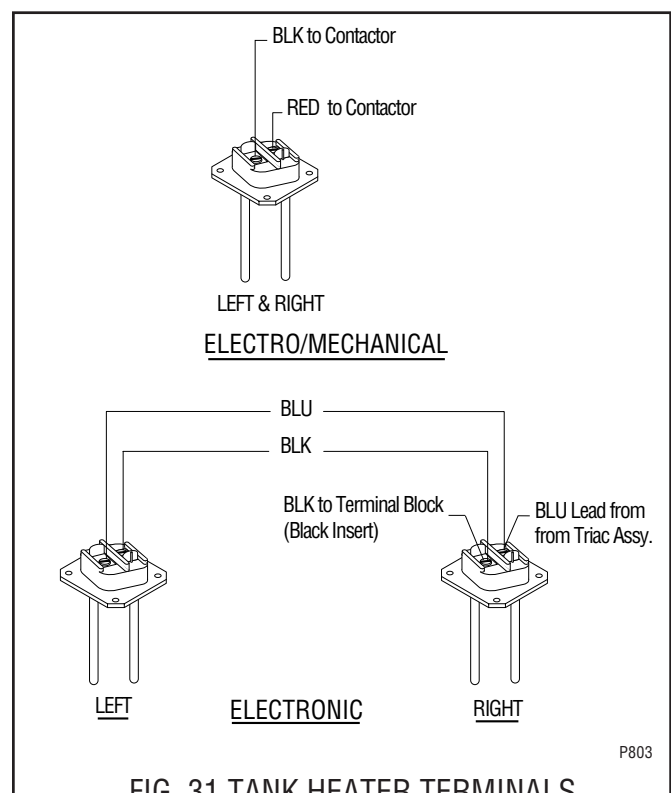

FIG. 31 TANK HEATER TERMINALS
5. Refer to Fig. 31 when reconnecting the wires.